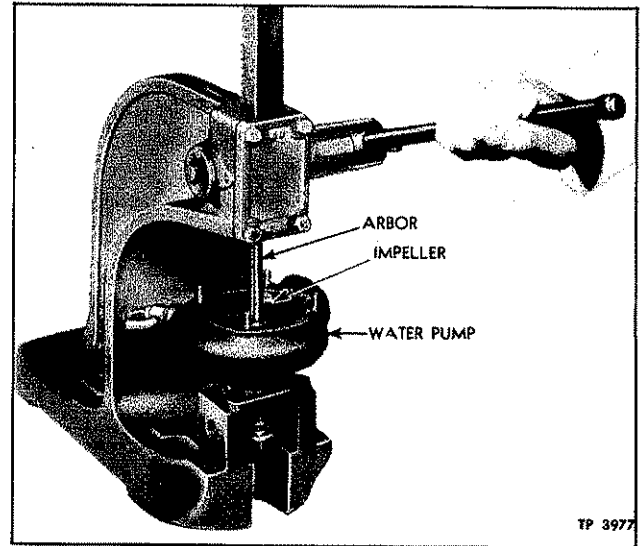

Figure 4—Pressing Water Pump Impeller from Drive Shaft
- Support the water pump in an arbor press flange down as shown in figure 4 and press the shaft through the impeller. Shaft and bearing assembly will also be removed from the pump body during this operation.